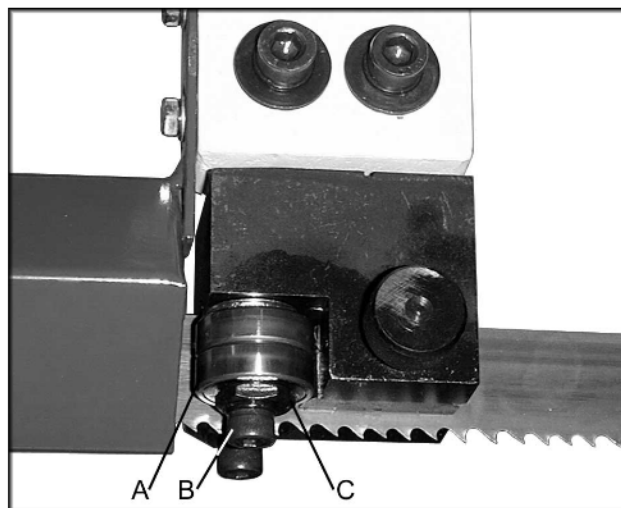

Fig. 10
5. Adjust the eccentric bearings (A, Fig. 10) by loosening hex socket cap screw (B, Fig. 10) about one full turn.
6. With a 19mm wrench turn hex nut (C, Fig. 10) until the ball bearings are approximately .003". **Note:** Do not pinch the blade.
7. Tighten the hex socket cap screw (B, Fig. 10) while holding the hex nut (C, Fig. 10) in place.